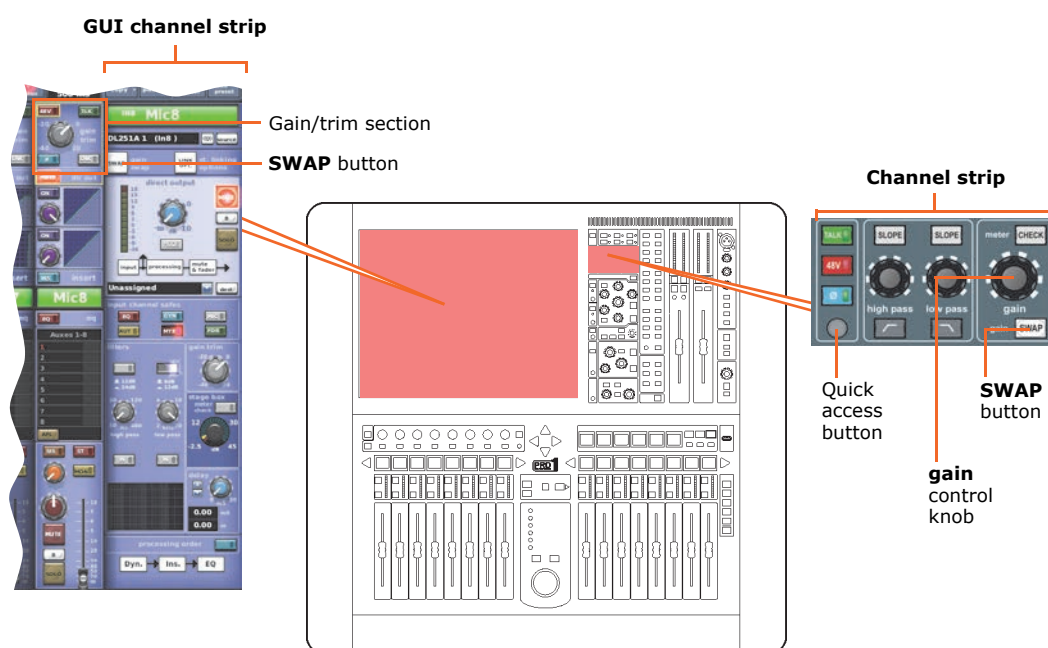

Figure 3: Gain and filters sections of the input strip
- 1 In the **gain trim** section of an input fast strip (see Figure 3, "Gain and filters sections of the input strip," on page 67), press the quick access button. This selects the input channel and assigns its configuration processing area to the GUI channel strip (shown above), which contains the **filters** section.